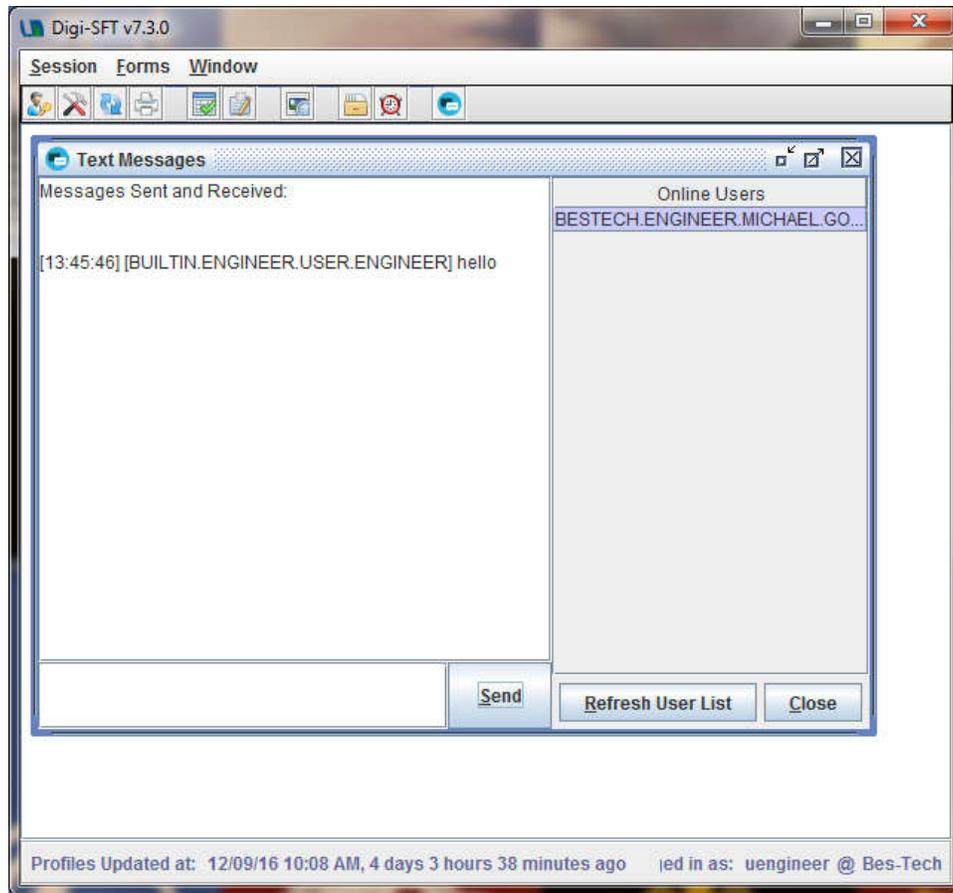

**Figure 92- Save History Window**
3. Click Save Multiple Histories from the pop-up menu to open the Save History window as shown in Figure 92